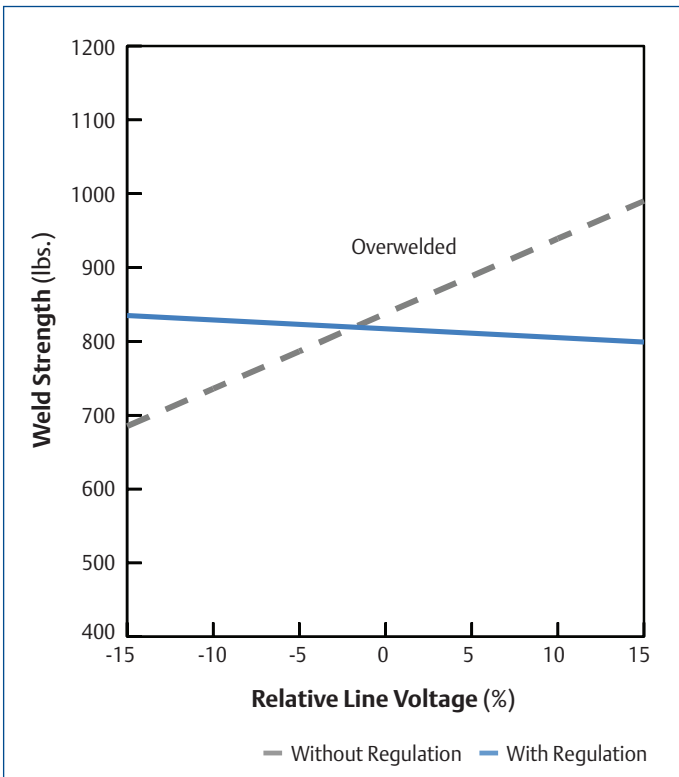

Fig. 2
- **Line/Load Regulation** – Corrects for variations due to power line fluctuations and varying load conditions through Branson’s patented closed-loop amplitude control. Output amplitude is maintained with a variation of only +2% with line voltage variations of a +10%, regardless of load, improving weld consistency (Fig. 2).